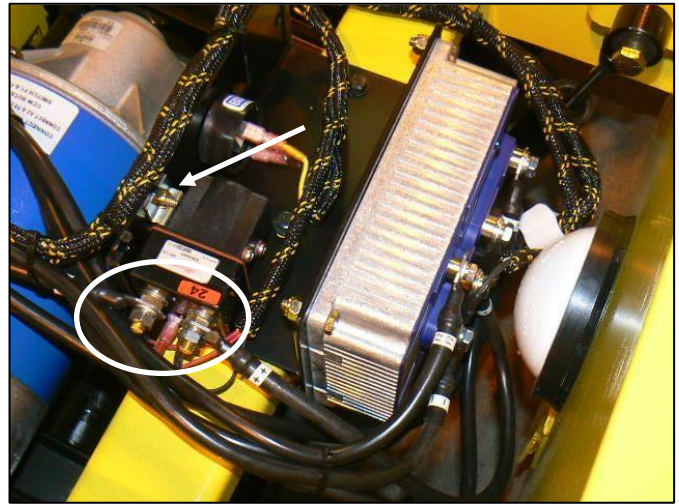

Figure 10-21
2. Remove two nuts, washers and cables from stud terminals (Figure 10-21 circle).
4. Remove two nuts, washers, bolts and contactor (Figure 10-21 arrow).